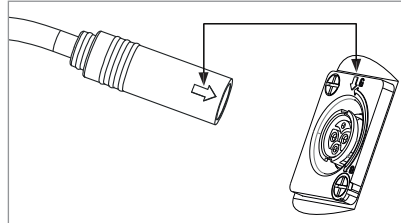

Figure 4
2. Connect the X35 charger to the ebike charging port and twist the safety ring clockwise. **NOTE:** The arrows on the X35 Charger and the ebike charging port must be aligned to successfully charge the bike (Figure 4).